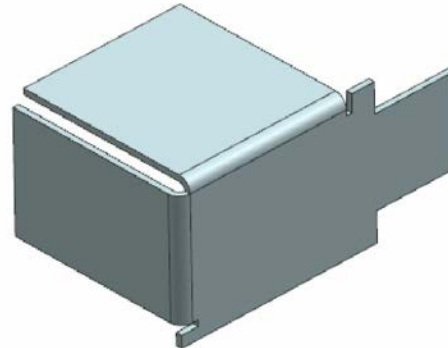

Figure 14-130 Preview of the left flange
7. Select the **Bend/Face** option from the **Corner Relief** drop-down list in the **Relief** rollout and choose the **OK** button to exit the dialog box; the second flange is created, as shown in Figure 14-130.